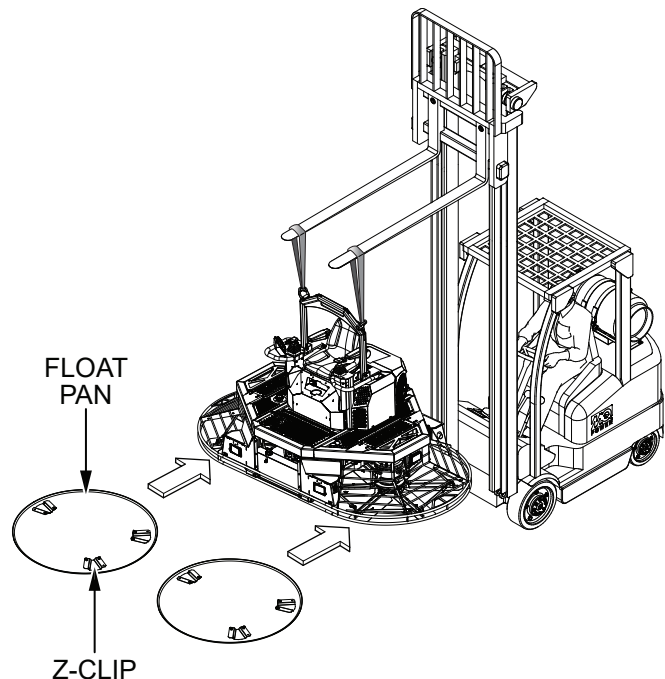

Figure 88. Float Pan Positioning
2. Lift the trowel just enough to slide float pans with Z-clips under the blades (Figure 88). Slowly lower the trowel onto the pans with the blades adjacent to the Z-clips.